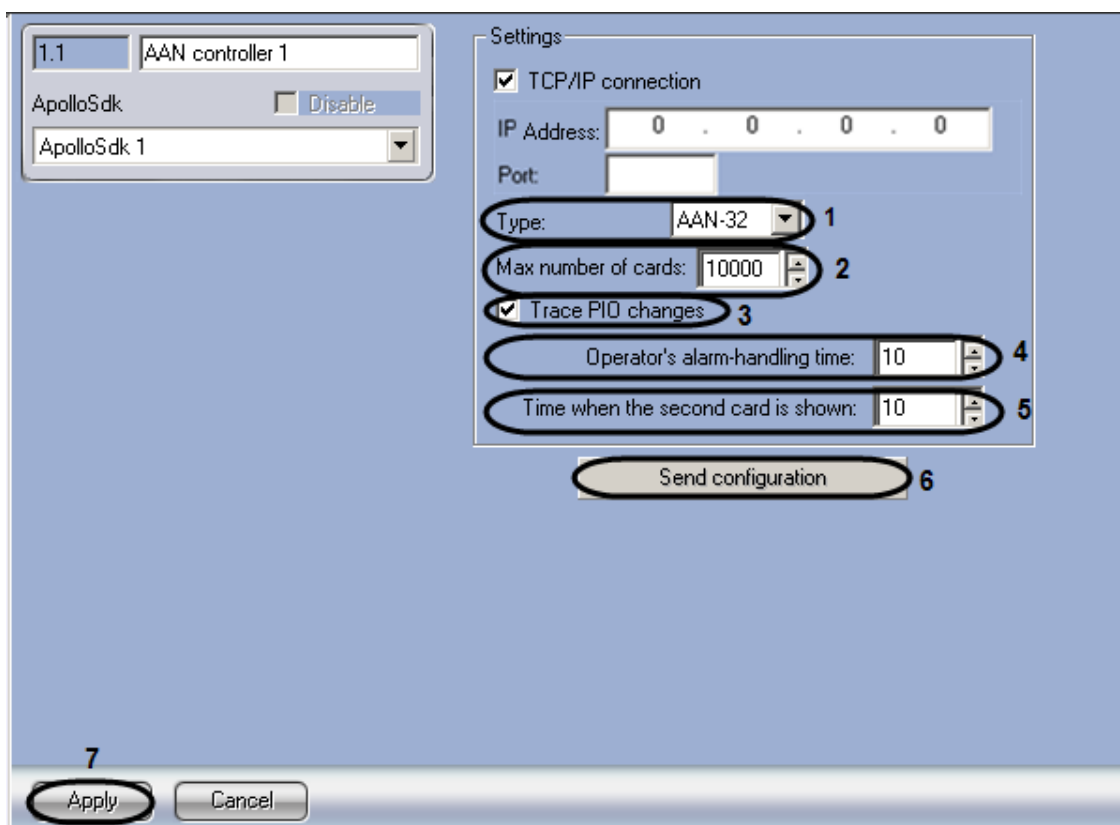

Fig.3.2-5 AAN Controller object's settings pane
5. Select the type of AAN controller (**AAN-32** or **AAN-100**) from the **Type** dropdown list, depending on the type of hardware being used (Fig.3.2-5, 1).
6. In the **Max number of cards** field, enter the maximum number of access cards that will be stored in the controller's memory (see Fig.3.2-5, 2).
7. Check the **Trace PIO changes** checkbox to enable dynamic forwarding of access parameters to the controller (see Fig.3.2-5, 3).
8. In the **Operator's alarm-handling time** field, enter the time in seconds allotted to the operator to make a decision to grant or deny access (see Fig.3.2-5, 4).
9. In the **Time when the second card is shown** field, enter the period of time in seconds between the presentation of the first and second access cards which, if exceeded, will result in access not being granted (see Fig.3.2-5, 5).
10. To save any changes made, click the **Apply** button (see Fig.3.2-5, 7).
11. To save users and access rights to the controller's memory, click the **Save users** button (see Fig.3.2-5, 6).